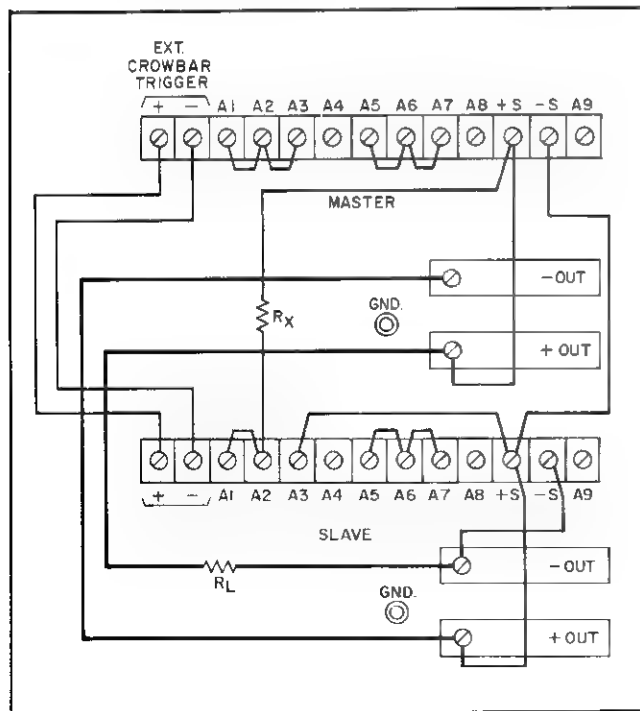

Figure 3-12. Auto-Series Operation of Two Units
**3-58** Figures 3-12 and 3-13 show the rear panel and circuit board interconnections required to operate two or three supplies in the auto-series mode. This mode of operation allows two or three series-connected supplies to be simultaneously programmed by the voltage and current controls of a master supply. The master supply must always be the one at the positive end of the series combination. The output voltage of each slave supply varies in direct proportion to that of the master and the ratio of each slave's output voltage to the master's is established by the settings of the slave supplies' voltage controls. The resulting combination of two or three supplies behaves as if it were a single constant-voltage/constant-current supply. The supply with the lowest current rating limits the maximum output current of the combination. Any of the supplies included in this manual can be used as an auto-series slave, and any well-regulated variable output supply can be used as the master.
**3-64 Overvoltage Protection in Auto-Series.** The interconnections shown in Figures 3-12 and 3-13 between the external crowbar trigger terminals on the master and on the slave(s) must be made to permit the overvoltage crowbar in any one of the interconnected supplies to fire the SCRs in all of them if an overvoltage condition occurs. Be sure to connect them with correct polarity, plus to plus and minus to minus. Set the overvoltage potentiometer in each supply so that it trips at a point slightly above the voltage that supply will contribute.